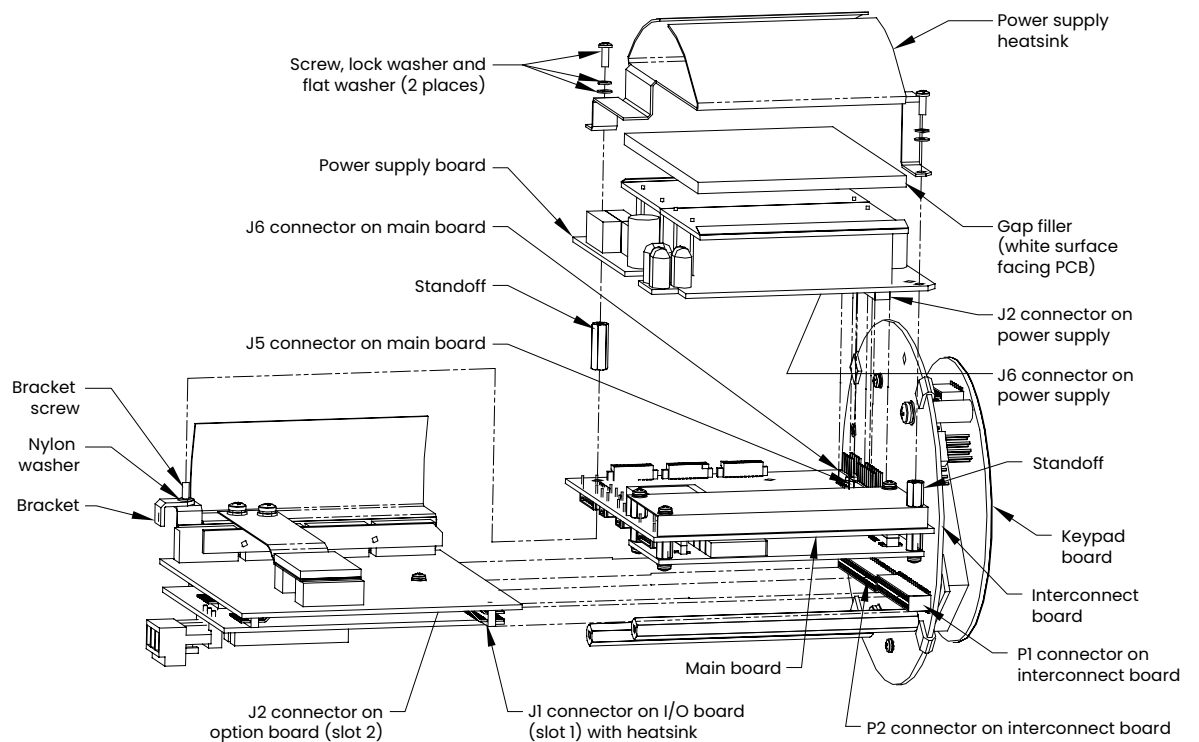

Figure 8: Model XGF868i I/O option card subassembly
To install an option card, see *Illustrations 9, 10 and 11* in *Figure 8 on page 29* and complete the following steps:
3. Remove the screw from the angle bracket on the main board, as shown in *Illustration 11 in Figure 8 on page 29*.
NOTE: To attach an optional heat sink to an I/O option card, see *Attaching an optional heat sink to an I/O option card on page 23*. When the XGF868i includes both an I/O board (slot 1) and an option board (slot 2), the two boards must be attached to each other with the hardware shown in *Illustration 10 in Figure 8 on page 29*. Pre-attach the nylon washer to the screw before inserting the boards into the assembly.
If you need to attach an optional heat sink to an I/O option card (the TI, TR, FI or FR options in **Appendix B** of the **Startup guide**), refer to *Illustration 9 in Figure 8 on page 29* and complete the following steps:
1. Orient the thermal heat pad(s) to the heat sink as shown in *Figure 8 on page 29* and apply it to the heat sink.
Most of the parts replacement procedures described in this chapter require removal of the circuit board assembly from the electronics enclosure. Furthermore, most of the procedures require varying degrees of disassembly of the circuit board assembly. See *Figure 8 on page 29* and follow the instructions in this section to assemble the circuit board assembly and/or to install it in the electronics enclosure.
If the circuit board assembly has been disassembled to any degree, complete the steps below. Otherwise proceed directly to *Installing the circuit board assembly on page 25*. See *Figure 8 on page 29* and complete the following steps:
1. If necessary, replace the angle bracket on the main board, insert the screw (with flat washer and lock washer), and screw it into the standoff on the main board. See *Illustration 11 in Figure 8 on page 29*.
3. Secure the power supply board and heat sink to the main board by reinstalling the screws, flat washers and lock washer previously removed from the corners of the power supply board. See *Illustration 11 in Figure 8 on page 29*.